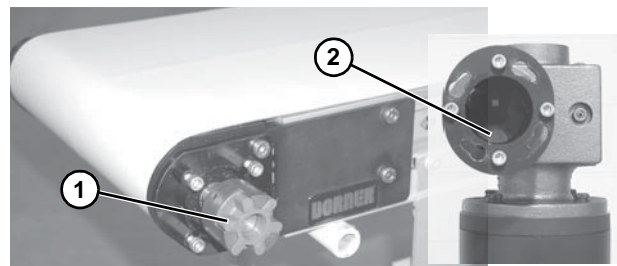

Figure 7
3. Rotate conveyor belt and attached conveyor coupling (**Figure 7, item 1**) to align with gearmotor coupling (**Figure 7, item 2**).